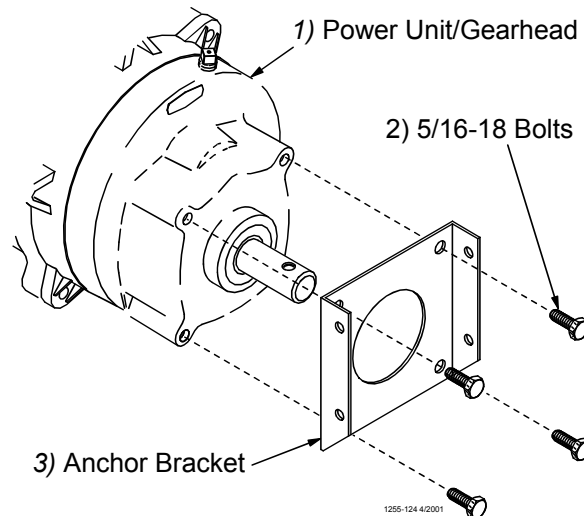

Figure 40. Assemble the Anchor Bracket to the Power Unit/
3. Install the Anchor Bracket to the Power Unit/Gearhead, as shown in **Figure 40**, with the included 5/16-18 Bolts.